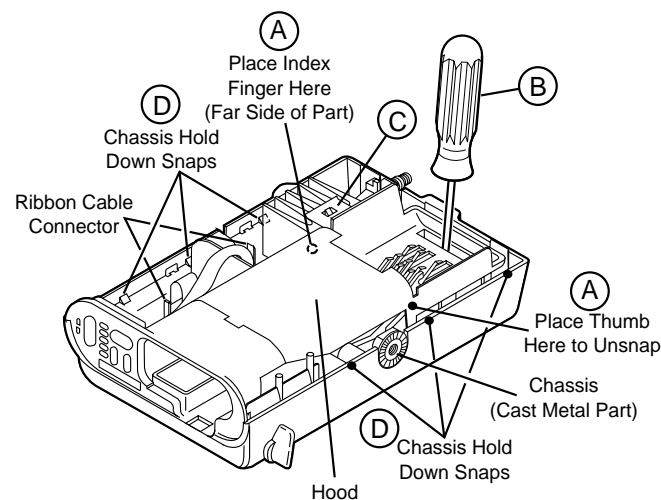

Figure 8. Removing the Insides of the Console
Refer to the exploded view, exploded view parts list, and Figure 8 for steps f through j.
- Remove the hood by locating the four hold-down snaps which extend through the chassis. Place your thumb and index finger around the hood (Figure 8, locations A) and squeeze the hood. This will enable you to pivot the front portion of the hood away from the chassis, clearing the snaps in the middle of the part.
- Insert the small flat-bladed screwdriver through the rear-most opening in the hood (Figure 8, location B), wedge the blade between the hood and the chassis, and twist the screwdriver slightly while pulling upward on the hood in that area. Repeat this step for the remaining snap.
- While gently squeezing the transistor clip against the heat sink fins on the chassis, loosen the clip (Figure 8, location C) by prying and lifting the clip away from the heat sink fins' retaining tab.
- Separate the remaining assembly from the bottom housing and shield by locating the six hold-down snaps (Figure 8, locations D) which are molded into the bottom housing and hang over the sides of the chassis walls. Pull the bottom housing away from the chassis in the areas where the snaps are located, and pull the chassis upward and away from the bottom housing.